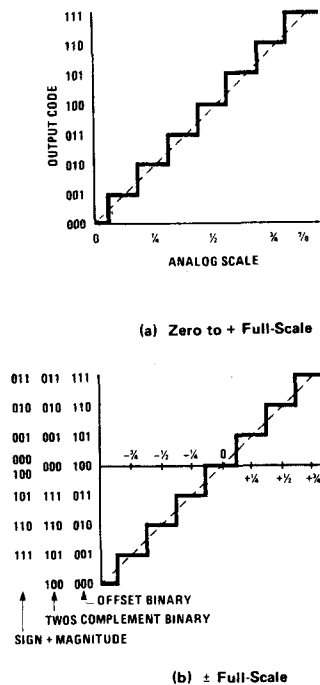

FIGURE 11. ADC Codes
**Offset Binary** is a natural binary code except that it is offset (usually  $\frac{1}{2}$  scale) in order to represent negative and positive values. Maximum negative scale is represented to be all "zeros" while maximum positive scale is represented as all "ones." Zero scale (actually center scale) is then represented as a leading "one" and all remaining "zeros." The comparison with binary is shown in figure 11.
**Twos Complement Binary** is an alternate and more widely used code to represent negative values. With this code, zero and positive values are represented as in natural binary while all negative values are represented in a twos complement form. That is, the twos complement of a number represents a negative value so that interface to a computer or microprocessor is simplified. The twos complement is formed by complementing each bit and then adding a 1; any overflow is neglected. The decimal number  $-8$  is represented in twos complement as follows: start with binary code of decimal 8 (off scale for  $\pm$  representation in 4 bits so not a valid code in the  $\pm$  scale of 4 bits) which is 1000; complement it to 0111; add 0001 to get 1000. The comparison with offset binary is shown in figure 11. Note that the offset binary representation of the  $\pm$  scale differs from the twos complement representation only in that the MSB is complemented. The conversion from offset binary to twos complement only requires that the MSB be inverted.
**Sign Plus Magnitude** coding contains polarity information in the MSB (MSB = 1 indicates a negative sign); all other bits represent magnitude only. This code is compared to offset binary and twos complement in figure 11. Note that one code is used up in providing a double code for zero. Sign plus magnitude code is used in certain instrument and audio systems; its advantage is that only one bit need be changed for small scale changes in the vicinity of zero, and plus and minus scales are symmetrical. A DVM might be an example of its use.